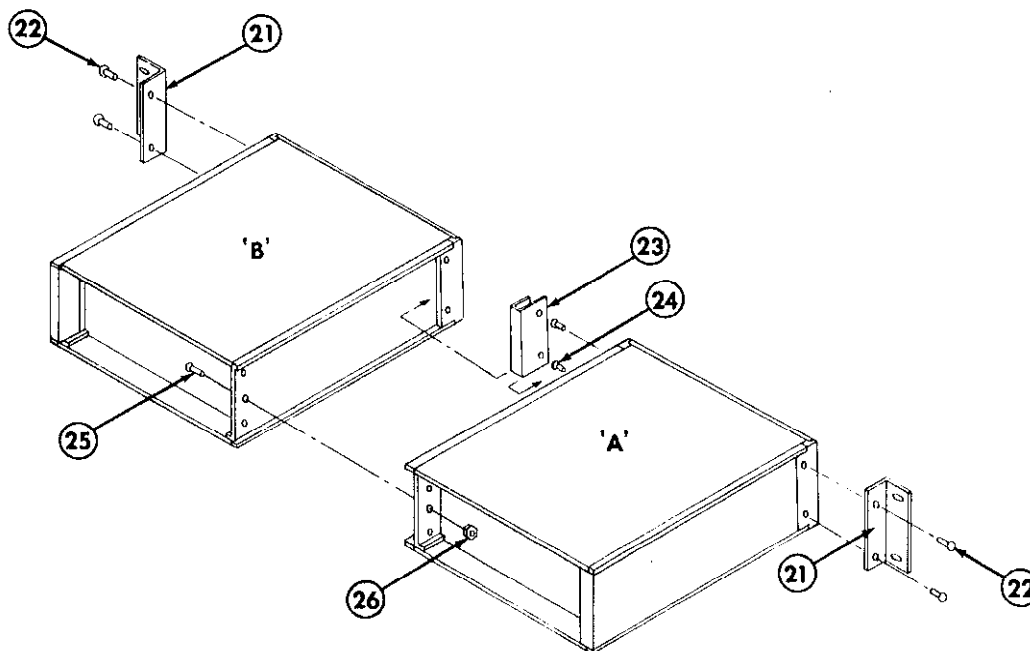

FIGURE 17. Model 1007 Dual Rack Mounting.
a. Before assembling the rack kit, determine the position of each instrument. Since the instruments can be mounted in either location, their position should be determined by the user's measurement. The following instructions refer to instruments "A" and "B" positioned as shown in Figure 17.